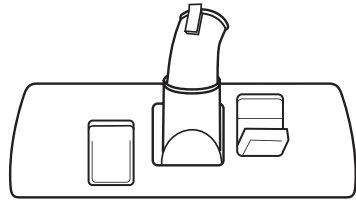

Fig 8
4. Step on the Floor to Carpet selector to adjust the height of the brushes. There are two different heights one for floors and one for carpets. (Fig.8)